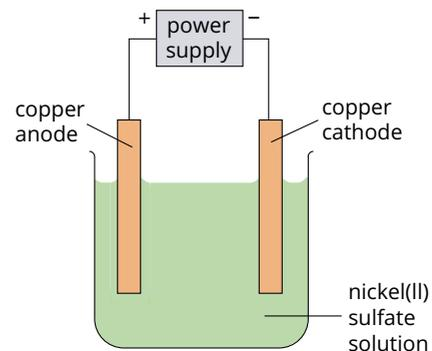

FIGURE 8.1.4 Electrolysis of nickel(II) sulfate solution using copper electrodes
Use the electrochemical series to predict the products of the electrolysis of 1 M nickel(II) sulfate solution with copper electrodes at 25°C. A diagram of this electrolytic process is shown in Figure 8.1.4.